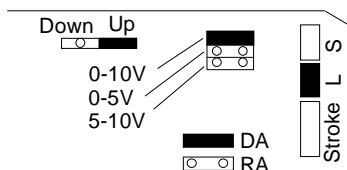

Figure 16: Jumpers
- Set the input selection jumpers to match the desired operating range. (See Figure 16.)